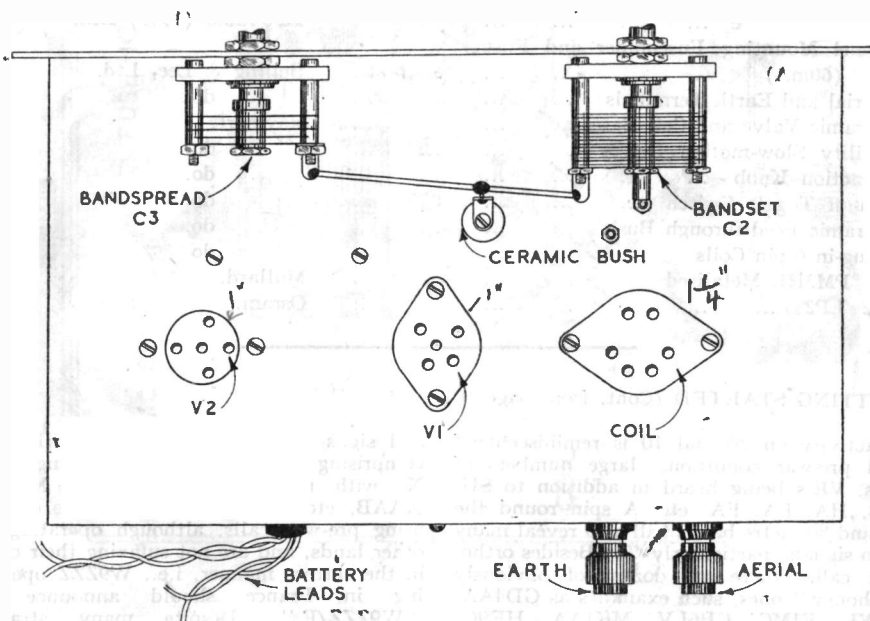

Fig. 2: Top of chassis layout.
**CONSTRUCTION.** The receiver is built on a chassis measuring 11 inches by 6½ inches by 2½ inches. The panel used measured 12 inches by 9 inches, obtained by cutting down a standard rack size panel, but alternatively a panel 12 inches by 7 inches can be utilised, and is available from the same firm. Figures 2 and 3 give the layout of the components, and the first step is to mark